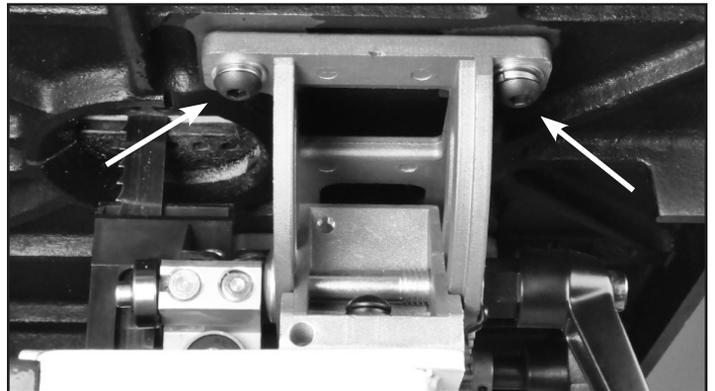
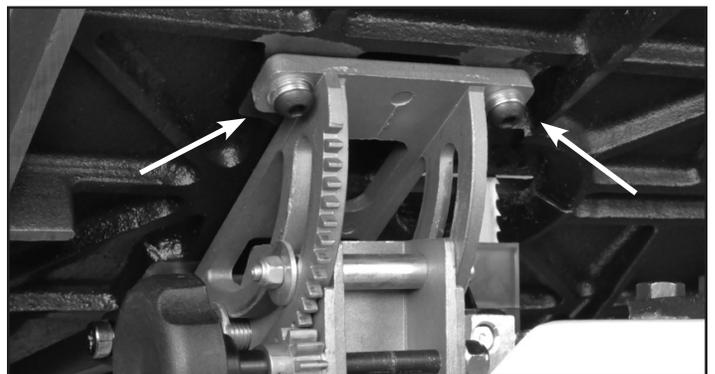

FIGURE 2
FIGURE 3
3. Attach the table to the trunnion with the four Hex Socket Cap Screws, Spring Washers and Washers (Parts #11B, 10B, 9B). Install two bolts to the right of the blade, hand tightened only. Fig. 2. Then tip the table to 45 degrees and install the two bolts to the left of the blade. Fig. 3. DO NOT fully tighten the bolts at this time. Return the table to the horizontal position.